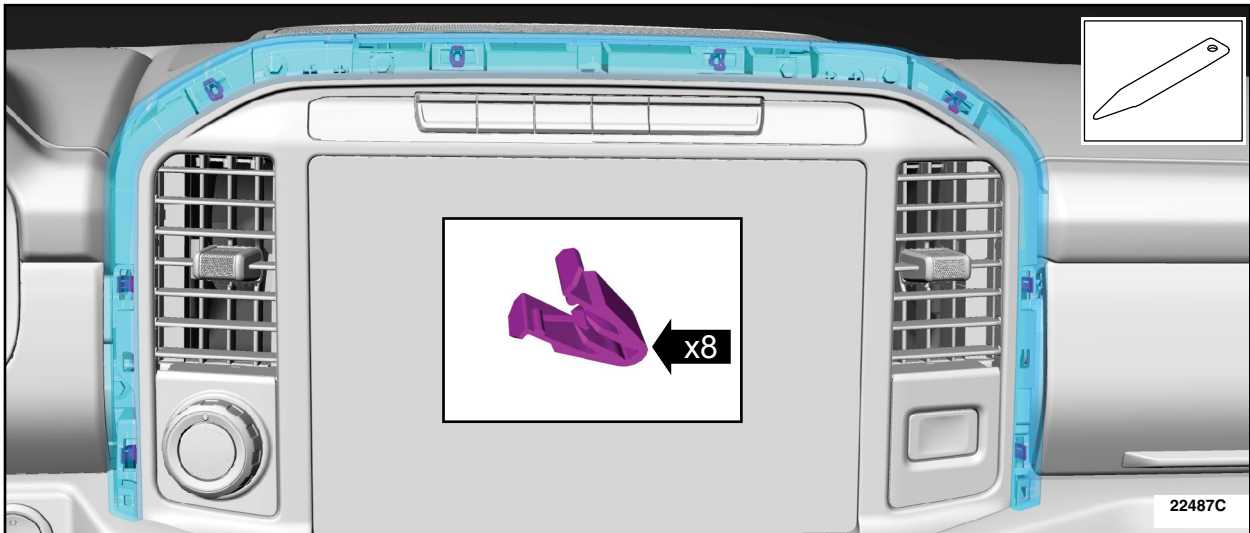

FIGURE 3
5. Release the clips and remove the trim panel. See Figure 3.